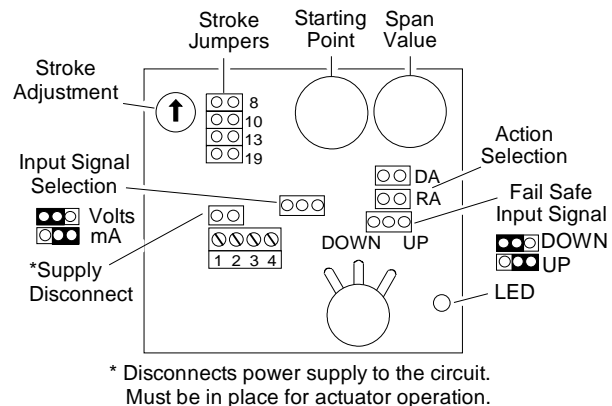

Figure 13: VA-7202 Components
1. Set the stroke jumper to approximate the stroke of the valve. See Figure 13 for jumper location.
3. Set the input signal selection jumper for voltage input or current (mA) input to match the controller output; see Figure 13. (If the input signal selection jumper is removed, the actuator defaults to voltage input.)
5. Adjust the potentiometers to the nominal values. Set the stroke adjustment to the midpoint as shown in Figure 13. Set the starting point (offset) to the low input signal using the scale printed on the circuit board as a reference. Set the span value to the high input signal minus the offset; see Table 5 in Step 6. Use the scales for reference.
7. Slowly turn the starting point potentiometer (shown in Figure 13) CW until the valve stem reaches the end of stroke to ensure that the valve stem is in the full up position. (LED will be on; there should be no gear movement.)